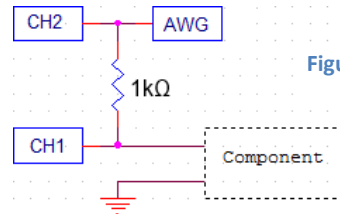

Figure 72: Component tester
- 1) Build the circuit shown in figure 72, or flip the CURVE switch on the Portables.